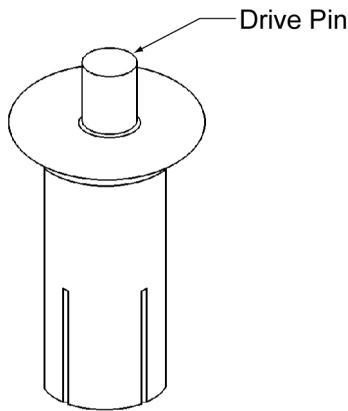

Figure 15
- 4.6.3 Attach the new lining to the backing plate with new screws and locknuts or drive pin rivets (See **Figure 15**), as applicable. Work from the center of the friction lining out to the ends. The rivets are installed by driving the pin flush with the head.